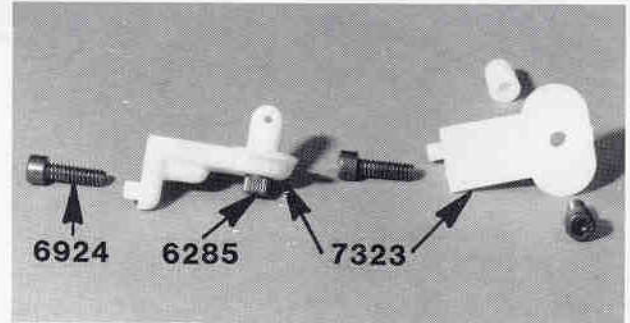

Fig. 116
□ **Figs. 116, 117, 118 & 119** Go back to bag #7-5 and remove the #7323 rear body mount parts, two #6285 4-40 x 1/4" SHCScrews, and two #6924 4-40 x 3/8" SHCScrews. Trim the four body mount parts from the mold runners. Use the #6285 1/4" screws to mount the small round posts to the rear body mounts as shown in fig. 116. The body clips' mounting holes point to the left.
Now pick up the #7655 fiberglass rear shock strut again. Install the rear body mounts to the rear shock strut on the opposite side of the #6927 screws using two #6924 4-40 x 3/8" SHCScrews from fig. 116. The mount is held in alignment by a small knob that goes in the bottom of the three rear shock strut body mounting holes. Thread the 3/8" SHCScrews into the middle mounting hole on the shock strut and into the body mount as shown. Fig. 118 shows the body mounts installed.